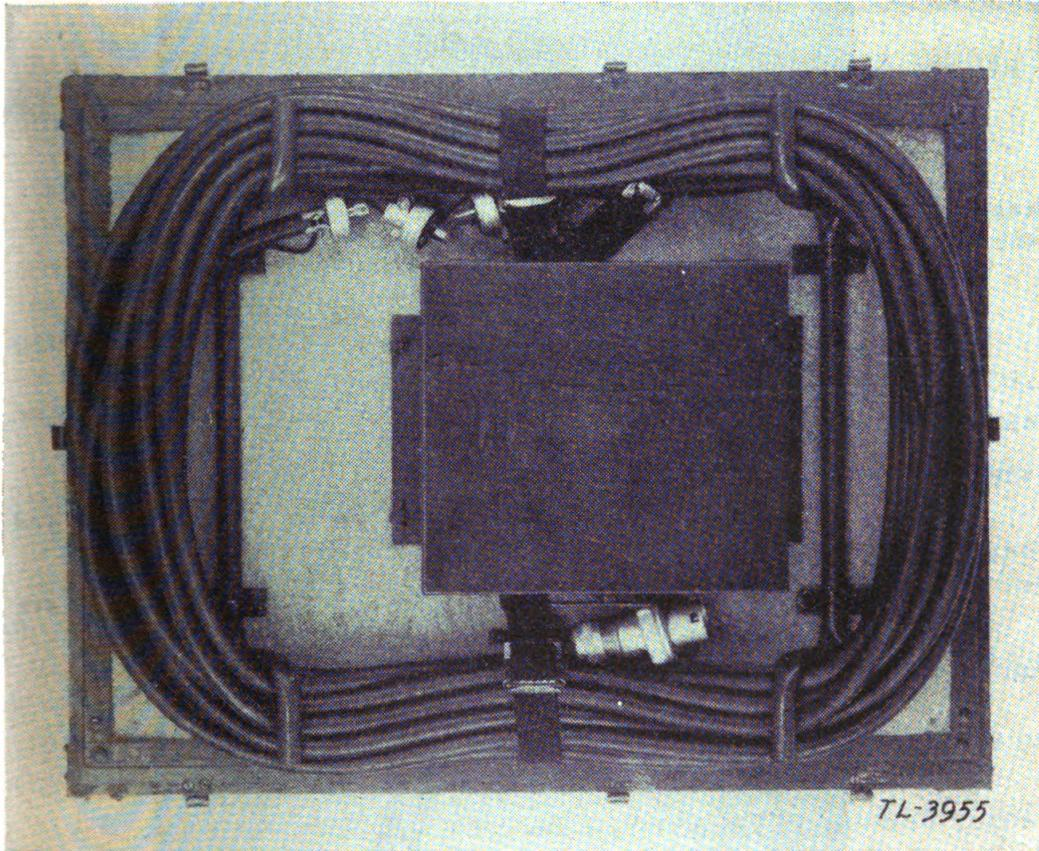

FIGURE 6.—Method of fastening cords to top of case.
(2) Release catches holding top to sides and remove. Also release catches on end; lift up to remove. Then take off sides.
(3) Remove fuel tank cap, tip unit, and drain tank.
(4) Replace sides and then ends, making sure that all sections marked with stripe are at front, or engine end.
(5) Attach power cords, if supplied, to top (see fig. 6). Also attach tool box to top, if previously removed.
(6) Replace top. Make sure all catches are right and dowel pins in catches, if furnished.
b. Unit operated out of case.—(1) Disconnect power cord or cords.